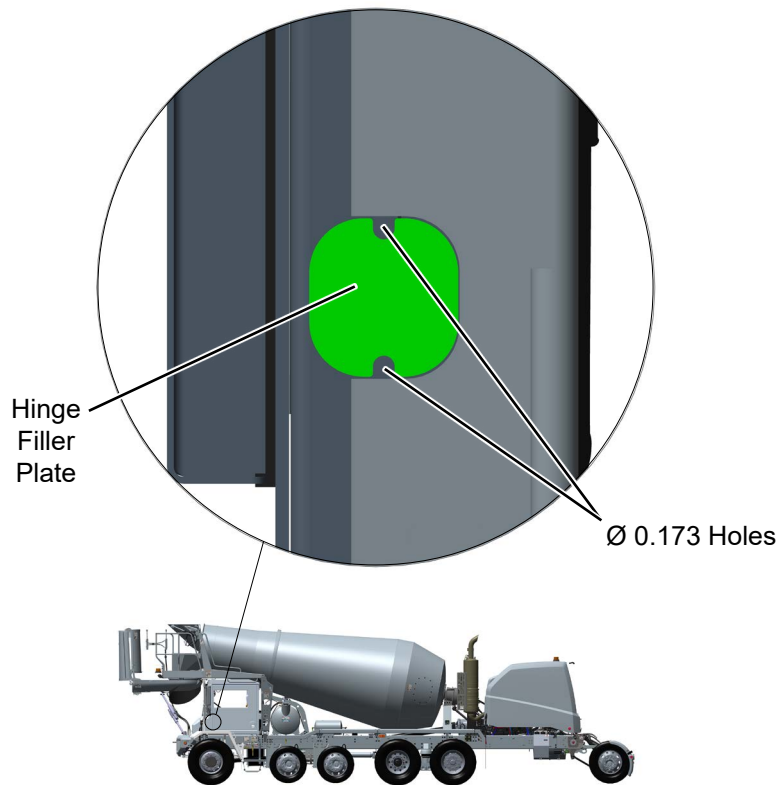

Figure 6
17. Insert hinge filler plate (A001C828) into notch of door hinge where magnet was removed in Step 16. See Figure 6.
18. Mark top and bottom filler plate slots and drill two 0.173 in holes. See Figure 6.
19. Secure filler plate to door with screws (A000H014). See Figure 6.